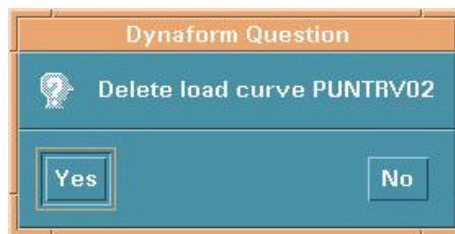

Figure 10.11.4 Delete Curve Question
- A DYNAFORM Question window appears, see Figure 10.11.4.